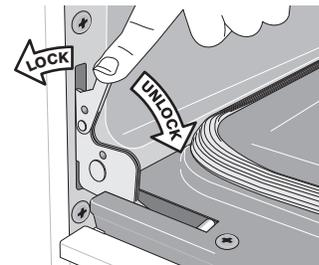

Figure 31: Door hinge locks
2. Pull the door hinge locks on both left and right door hinges down from the oven frame completely towards the oven door (See Figure 31). A tool such as a small flat-blade screwdriver may be required.
4. Push the door hinge locks up towards and into the oven frame on both left and right oven door hinges to the locked position (See Figure 31).